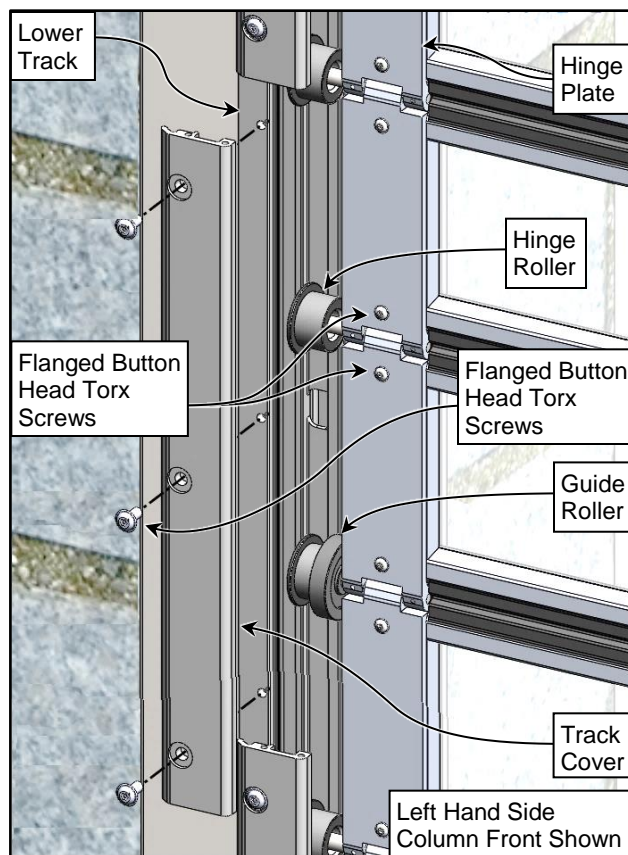
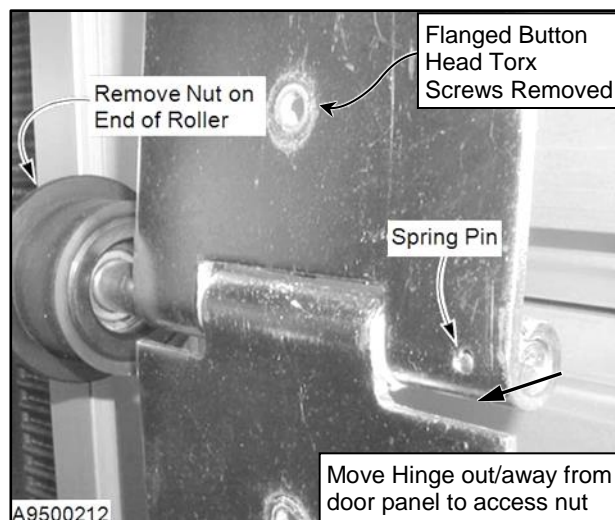

Figure 82
Figure 83
5. Individually remove the Lower Track Assembly Covers 1 at a time to replace the roller and/or guide wheels as necessary. The cover is held in place with Button Head TORX® screws. (See Figure 82)
6. Remove the Button Head TORX screws from the hinge plates above & below the roller or guide wheel to be removed. (See Figure 82)
7. To remove the roller, loosen and remove the nut on the end of the roller. Then slide the roller off the end of the axle. (See Figure 82 & Figure 83)